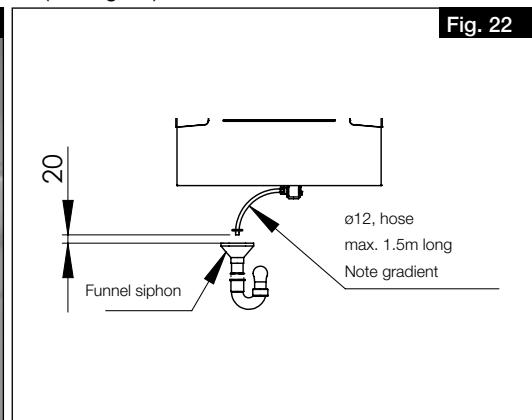

Fig. 22
- > The condensate hose must end 20 mm above the open drain or possible water level (see Fig. 22).
- > The condensate hose from the ball siphon must have a downward gradient, openly dripping into a funnel siphon and must not be discharged into a closed system (see Fig. 22).
> The condensate hose must end 20 mm above the open drain or possible water level (see Fig. 22).